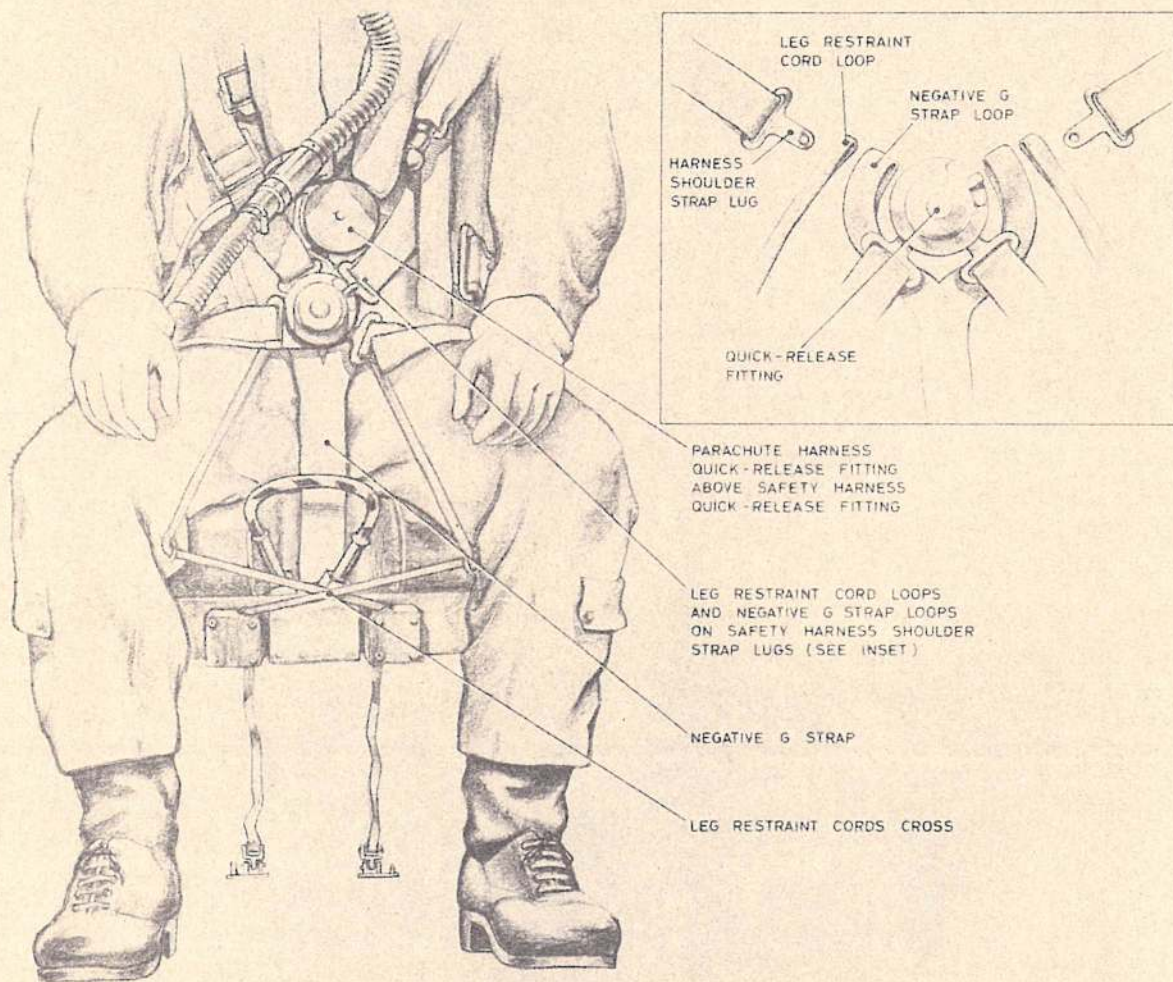

Fig. 4. Arrangement of leg restraint cords (inset: Assembly to quick-release fitting)
23. The strapping-in procedure is as follows; refer to fig. 4 to 6 for detail as necessary:-
- (6) Pass the parachute harness leg straps through the leg loop and couple the lugs to the quick-release fitting.
- (7) Adjust the quick-release fitting so that it lies centrally with the waistbelt close to the body.
- (8) Tighten the shoulder straps first so that the parachute harness quick-release fitting will lie above and clear of the safety harness quick-release fitting when assembled.
- (9) Tighten the parachute harness leg straps. When tightening harness straps, pull on the running end with one hand and push on the standing end with the other hand to relieve the tension on the buckles.
- (10) Connect the air supply hose to the air ventilated suit (if worn).
- (11) Fasten the lap straps of the safety harness but do not tighten.
- (12) Draw the negative-G restraint strap up between the legs and tuck the V-shaped end under the safety harness. Ensure that the negative-G restraint strap is clear of the seat pan firing handle.
- (13) Thread the leg restraint cords through the quick-release coupling rings on the garters as follows:-
- (a) Pass the cord emerging from the snubbing unit behind the left leg through the garter ring on the right leg and UNDER the safety harness lap strap. Insert the lug of the safety harness right shoulder strap through the loop at the end of the leg restraint cord and also through the loop at the end of the right branch of the negative-G restraint strap. Secure the lug in the quick-release fitting (see inset of fig. 4).
- (14) If there is insufficient leg restraint cord, press and hold the plunger under the snubbing unit and draw the cord upwards; if there is too much, draw any excess downwards through the unit (it is unnecessary to press the plunger in this instance).
- (15) Tighten the safety harness lap straps first, then tighten the shoulder straps and tension the negative-G restraint strap.
- (16) Connect the main and emergency oxygen supply to the mask tube assembly and the locating chain to the life-jacket.
- (17) Connect the Mic/Tel lead.
- (18) Adjust the height of the seat. Ideally, the head is to be located in the centre of the headrest cushion.
- (19) Reach upwards and check that the face screen firing handle is within easy reach; DO NOT PULL.
- (20) Ensure that the chin straps of both helmets are fastened, fit the oxygen mask and perform pre-flight oxygen checks.